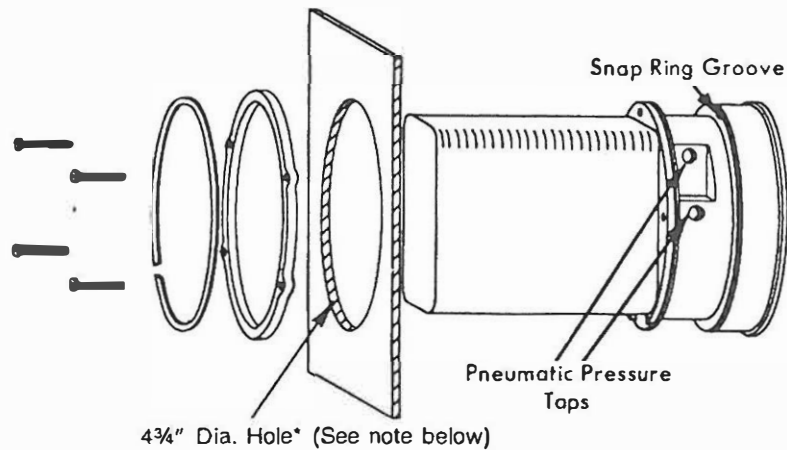

Figure 2
- A. Panel Mounting:** Normal mounting is flush or through panel as shown in Fig. 2. Be sure to allow 4 3/8" extra space behind the unit for electrical enclosure removal. Make a single 4 3/4" diameter hole in the panel. Insert the entire PHOTOHELIC® unit from the front, then slip on the mounting ring and snap ring from the rear. Seat the snap ring in its groove, back up the mounting ring against snap ring and tighten the four (4) 2" No. 6-32 clamp screws provided. If behind panel space is critical, the amplifier-relay unit can be mounted remotely. See the Remote-Relay Mounting Instructions for details.
B. Gage Mountings with Relays Remote: Where it is desirable to mount the amplifier-relay unit separate from the gage-photocell unit, the gage may be mounted either as shown in Fig. 2 (except less amplifier-relay portion) or surface mounted as shown in Fig. 3A. Use the layout shown in Fig. 3B to locate holes. The complete package cannot be surface mounted.